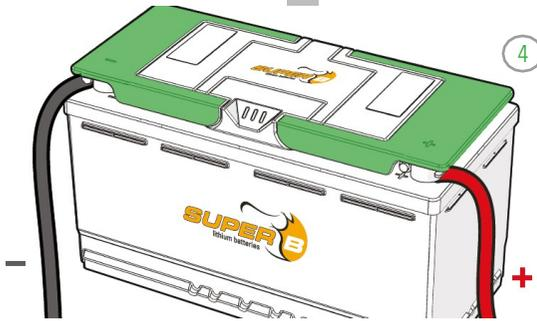

Figure 13. Place the handle cover over the terminals
1. Connect the plus of the power cable of the small consumer to the X2 (+) terminal of the LFP battery (Figure 13). Use the included M6 bolt.
2. Connect the minus of the power cable of the small consumer to the X1 (-) terminal of the LFP battery (Figure 13). Use the included M6 bolt.